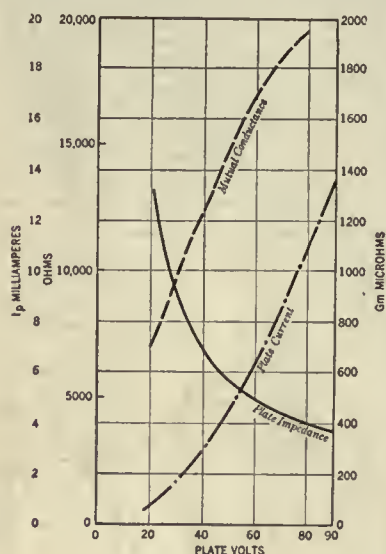

FIG. 1
Determine the plate resistance and mutual conductance for several values of plate and grid voltages, taking the data from that obtained in Sheet No. 5. Plot these values as shown in Fig. 1 and Fig. 2.
4. The curve in Fig. 1 does not have the values of μ plotted on it. Calculate these values and plot. What kind of tube do you think it is?
The mutual conductance may be determined by noting the effect on the plate current produced by a given change in grid voltage. Looking at Fig. 1, Sheet No. 5, we note down the following data taken from the point where the plate voltage is 45.